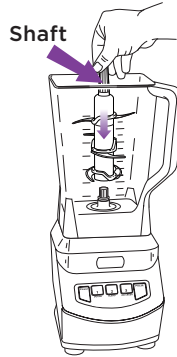

Fig. 4a
- 5 Holding the desired attachment by the shaft, place it onto the gear shaft inside the container. Ensure that the attachment fits around the gear shaft and that it is standing straight. (Fig. 4a, Fig. 4b)